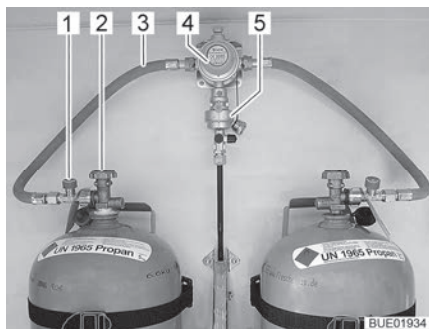
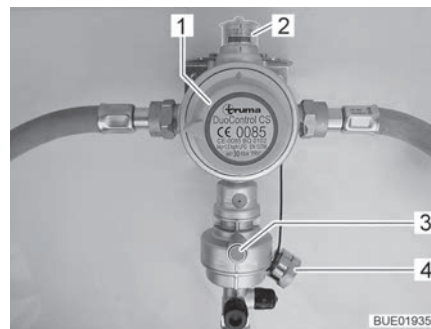
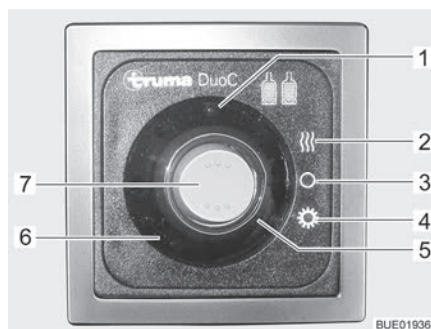

Fig. 57 Gas bottles with DuoControl
Fig. 58 DuoControl regulating system
Fig. 59 Operating unit (DuoControl)
The DuoControl regulating system consists of a reversing valve (Fig. 57,4) and a crash sensor (Fig. 57,5). The DuoControl regulating system is installed between the gas tubes (Fig. 57,3) with hose break guard (Fig. 57,1). The knob (Fig. 58,1) on the reversing valve is used to select which of the gas bottles is to be used as primary bottle and which is to be used as reserve bottle.
The status of the gas supply is indicated in the inspection window (Fig. 58,2):
The operation with only one gas bottle is allowed but in this case the open connection must be closed with a blind cover (Fig. 58,4).
The crash sensor blocks the gas supply in the event of a significant impact (e.g. accident). The crash sensor is put into operation with the green reset button (Fig. 58,3).
The hose break guard (Fig. 57,1) blocks the gas flow if the connected hose breaks. The hose break guard must be activated by pressing the green button.
At the operating unit (Fig. 59), the gas supply via the DuoControl regulating system is switched on and off. The regulator taps (Fig. 57,2) of the gas bottles and the gas isolator taps of the devices must be opened manually.
Summer and winter operation are switched with the rocker switch (Fig. 59,7) on the operating unit.
The two indicator lamps on the operating unit indicate the level of the primary bottle. When the green indicator lamp (Fig. 59,6) is lit, the primary bottle is sufficiently filled. When the red indicator lamp (Fig. 59,5) illuminates, the primary bottle is empty. In this case, the reserve bottle is used for the gas supply.
- Use the knob (Fig. 58,1) on the reversing valve to select the gas bottle which is to be the primary source of gas (primary bottle). Always turn the knob as far as it will go.
- Open regulator taps (Fig. 57,2) on the gas bottles.
- Press the green button of the hose break guard (Fig. 57,1). The green marking is shown in the inspection window (Fig. 58,2).
- Switch on the DuoControl regulating system at the operating unit (Fig. 59). To do so, set the rocker switch (Fig. 59,7) to winter operation (Fig. 59,2) or to summer operation (Fig. 59,4). The yellow defroster indicator lamp (Fig. 59,1) is lit when winter operation is selected.
- Set the rocker switch (Fig. 59,7) to the OFF position (Fig. 59,3). The indicator lamps go out.
- Close regulator taps (Fig. 57,2) on the gas bottles.
If the green indicator lamp (Fig. 59,6) goes out during operation and the red indicator lamp (Fig. 59,5) lights up, the primary bottle is empty and must be changed. The red marking is shown in the inspection window (Fig. 58,2). The reserve bottle continues supplying the gas appliances with gas.
- Turn the knob (Fig. 58,1) a half turn in the direction of the currently used gas bottle. In this way, this gas bottle is the primary bottle now, and the empty gas bottle becomes the reserve bottle. The marking in the inspection window (Fig. 58,2) changes from red to green.
- Close regulator tap (Fig. 57,2) on the empty gas bottle. Pay attention to the direction of the arrow.
- Press the green button of the hose break guard (Fig. 57,1).